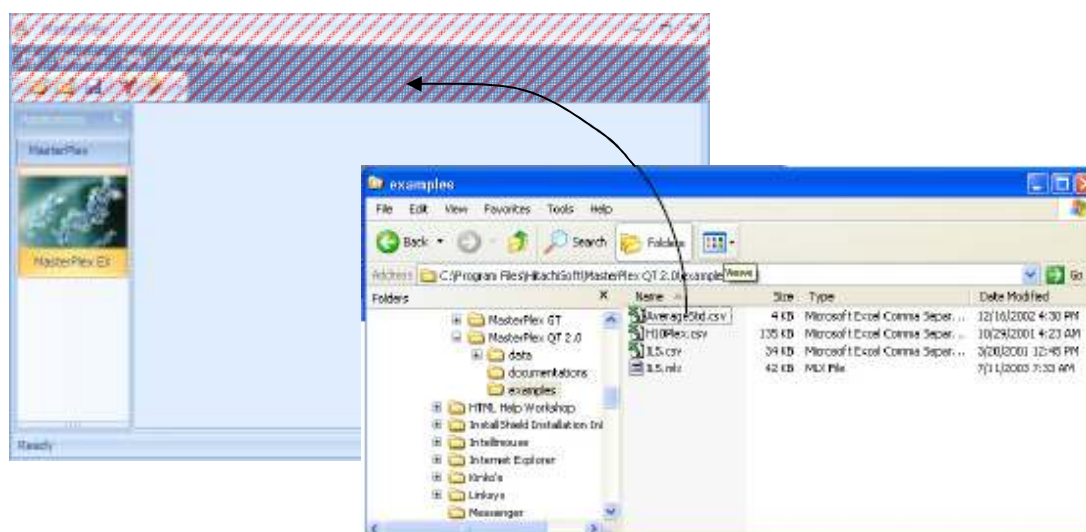

Figure 3.4 MasterPlex® EX and Windows® Explorer application windows
3. Select the file(s) of interest, then click and hold the mouse button while you drag the selected file(s) to the MasterPlex® application menu bar area (Figure 3.4).